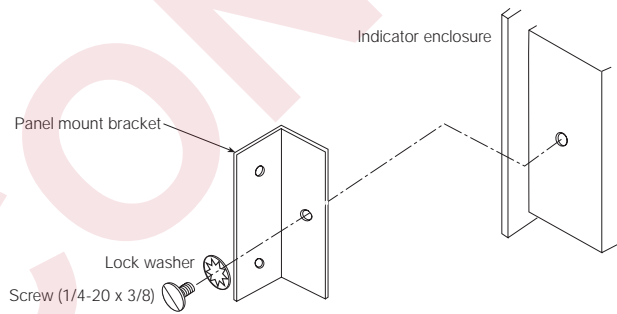

Figure 4. Attaching Panel Mount Brackets to the Enclosure
13. Use the 1/4-20 x 3/8" pan-head screws and lock washers provided to attach the panel mount brackets to the sides of the indicator as shown in Figure 4 on page 2.